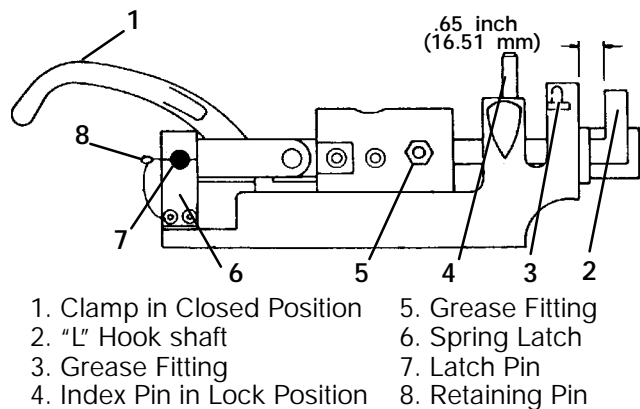

Figure 4-18. Clamping Device in Closed Position
b. Adjusting Clamping Device (See Figure 4-18)
The clamping device "L" hook shaft (see Figure 4-18) must be .65 inch (21/32 = 16.51 mm) between the head of clamping device and the inside of the "L" hook shaft to ensure that the generator set is tightly secured to the container.